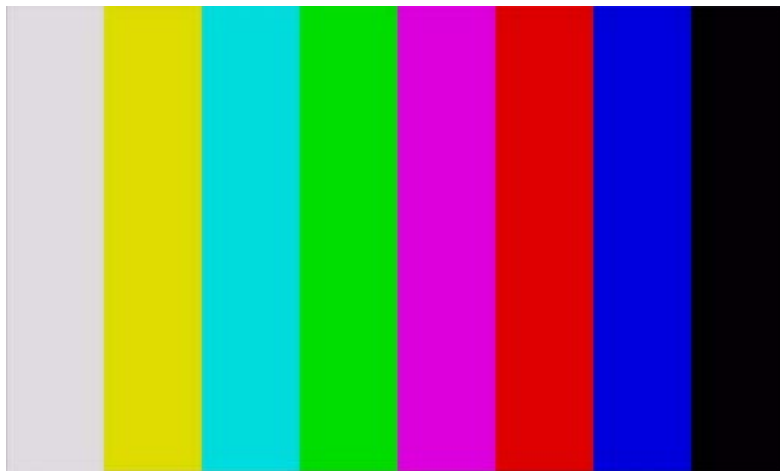

figure 1: contrast / white value too low
- The left field is gray instead of white – contrast adjusted too low. Warning: With this test pattern it is not possible to find out if the contrast is already adjusted too high. If you didn't know whether the contrast is adjusted optimal, please use an another test pattern like „faces“. (fig. 1)